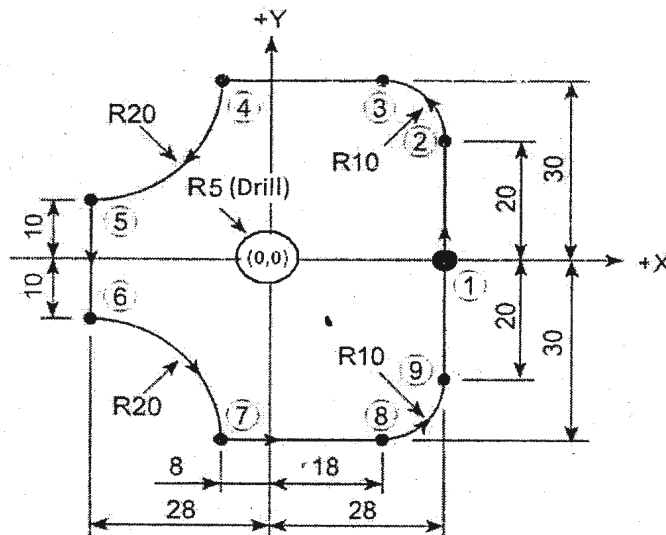

Fig.2 (All dimensions are in mm)
- b) Write a manual part program for milling and drilling the machine part as shown in fig.2, using G and M codes. Assume suitable data for speed, feeds